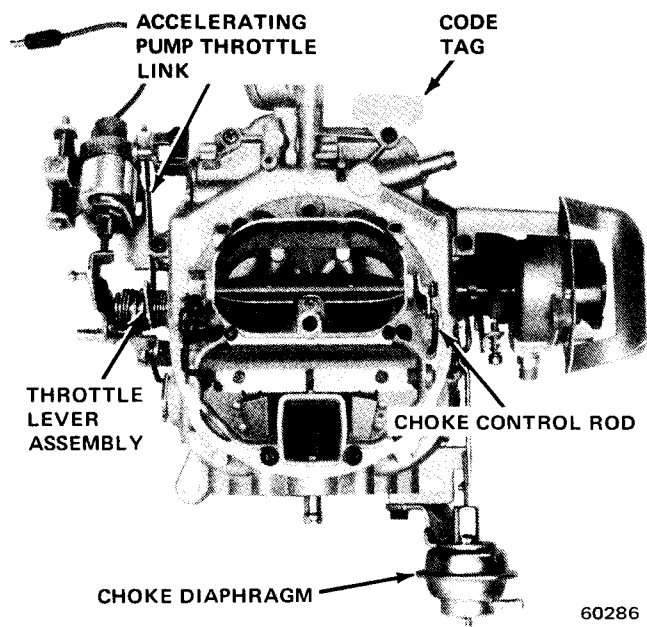

Fig. 4-70 Model 4350 Carburetor—Top View
(5) Remove air cleaner anchor screw and remove air-horn-to-fuel-bowl attaching screws (fig. 4-70).